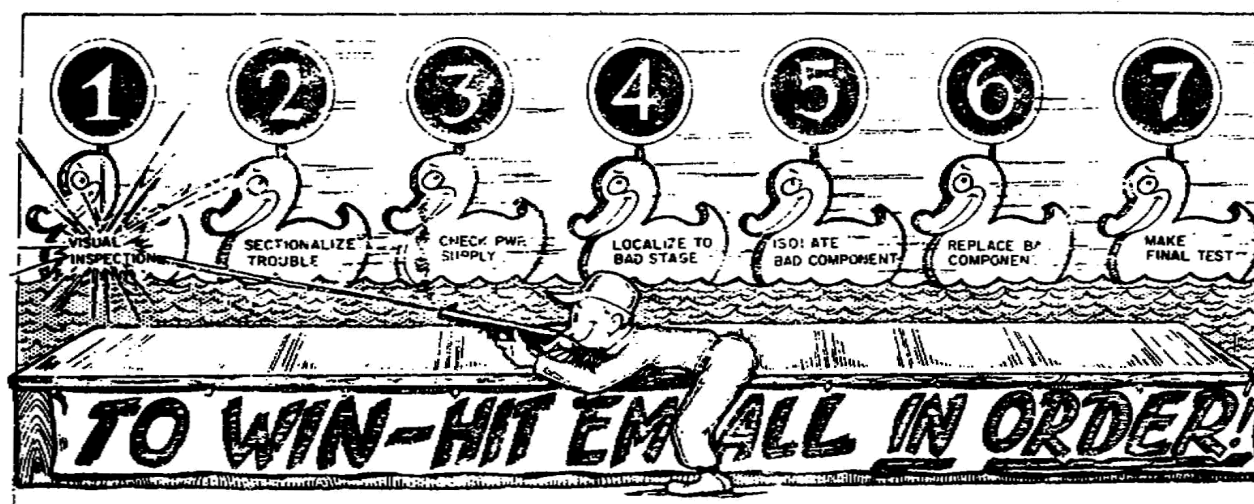

Figure 4. On your way to a perfect score.
b. With the defective set or transmitter and the TM for that equipment in front of you, you're ready to start. The procedure to follow is given in figure 4 and the following steps. The first two steps are used if you have a complete radio set.
(1) Perform a **VISUAL INSPECTION** of the complete set.
(7) Make a **FINAL TEST**.